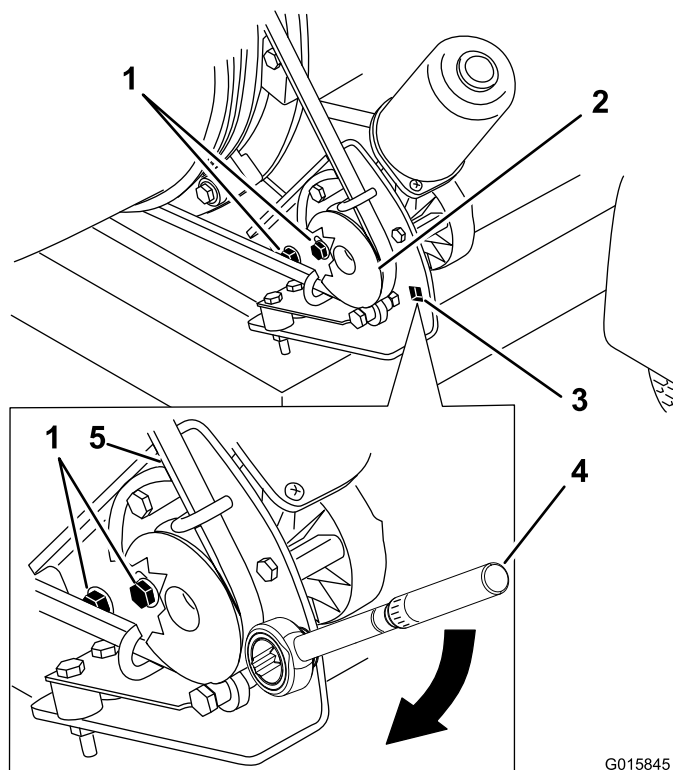

Figure 30
1. Loosen the bolts securing the pulley mounting bracket to the blower frame (Figure 30).
2. Position a torque wrench into the pulley mounting bracket (Figure 30).
3. Pivot the pulley mounting bracket away from the nozzle until the torque wrench reads 200 to 230 in-lb (22.6 to 26.0 N-m) (Figure 30).